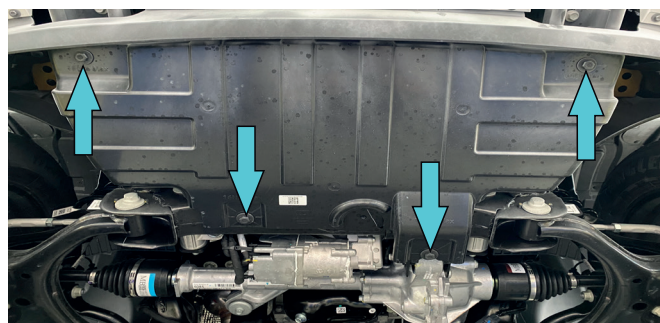

Fig.64
63. Install OE skid plate and fix it using OE hardware (fig.64).